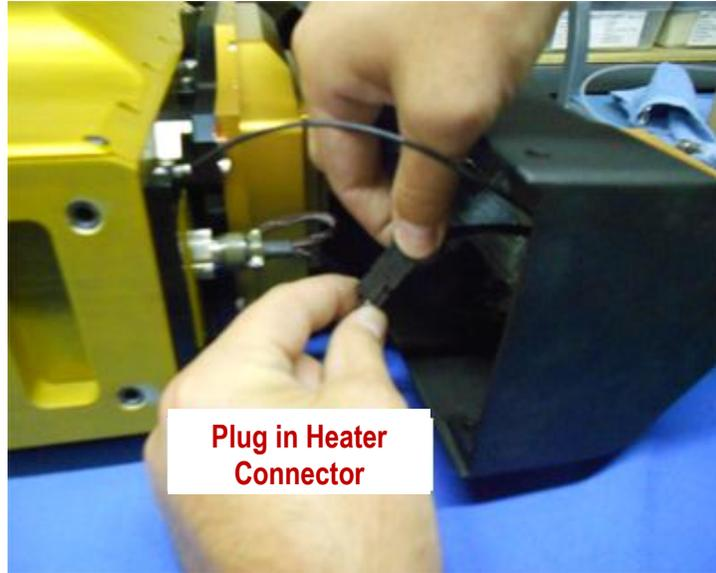

Figure 3.1.11. Reconnect the heater connector.
1. First, reconnect the heater cable (**Figure 3.1.11**).